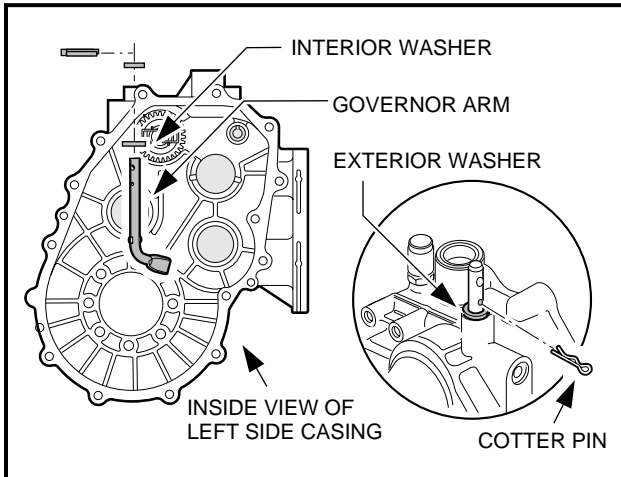

Figure 16-79 Pivot Arm
5. Position the interior washer on the pivot arm, then install the pivot arm and washer into the left (driver) side case as shown (**Figure 16-79, Page 16-33**). Install the exterior washer and cotter pin on the pivot arm outside the case as shown (**Figure 16-79, Page 16-33**). Bend the legs of the cotter pin.